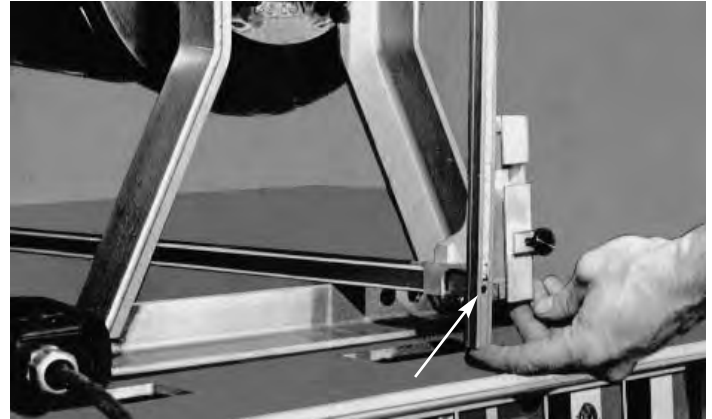

Figure 79
7. Fasten the lower end of each vertical scale in the scale housings of the lower horizontal bar. The scales are held in the housings by means of a thumb screw that fits in a hole on the scale. (See Figure 79 — arrow points out hole in scale.)